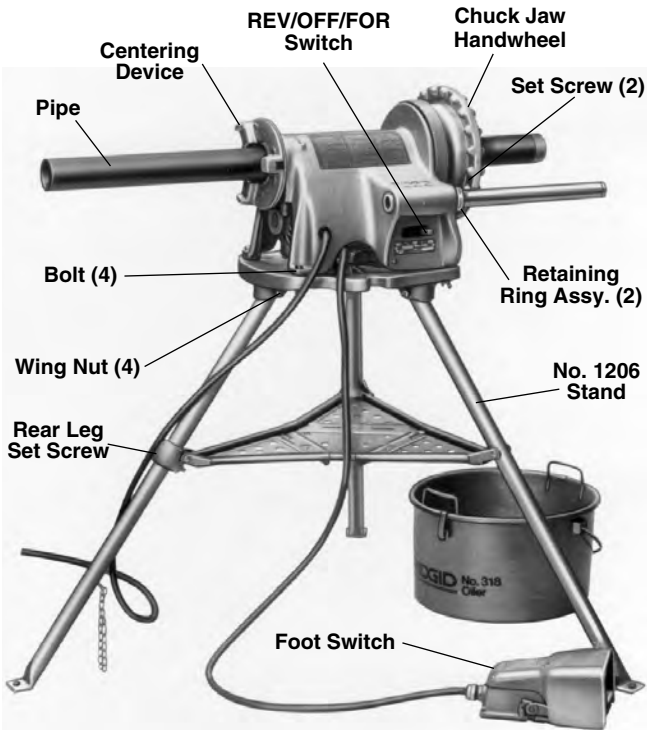

Figure 3 – 300 Power Drive Mounted on No. 1206 Stand with 418 Oiler
- Locate the set screw on the tray leg support on the rear leg (Figure 3).
2. Mount power drive on the stand using bolts and wing nuts (*Figure 3*).
1. Make sure Power Drive is unplugged and the directional switch is set to the OFF position (*Figure 3*).
4. Make sure the foot switch is present and attached to the Power Drive (*Figure 3*).
- 4.. If the workpiece extends more than four (4) feet beyond the Power Drive, use one or more pipe stands to prevent tipping and the oscillation of the pipe.
5. If the workpiece extends beyond the Power Drive, set-up guards or barricades to create a minimum of three (3) feet of clearance around the Power Drive and workpiece. This “safety zone” prevents others from accidentally contacting the machine or workpiece and either causing the equipment to tip or becoming entangled in the rotating parts.
6. If necessary, fill the 418 Oiler with RIDGID Thread Cutting Oil. Position the oiler under the front of the Power Drive (*Figure 3*).